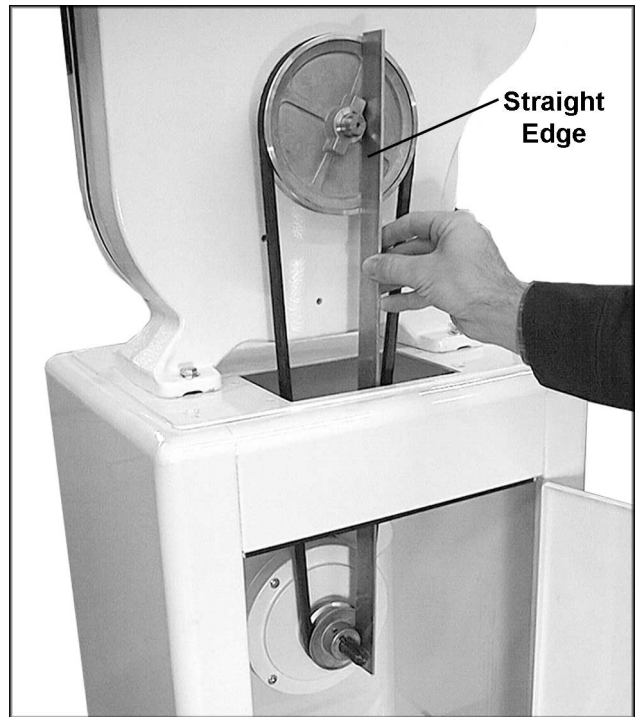

Fig. 8a
6. Check the alignment of the pulleys by placing a straight edge against the flat sides of the motor and wheel pulleys (Fig. 8a). If the pulleys lie in a straight plane (Fig. 8b) they are aligned. If they do not lie in a straight plane, loosen the set screw on one of the pulleys and shift the pulley in or out until both pulleys lie in a straight plane. Tighten set screw.
7. Open the lower door, and place the v-belt around the motor pulley and the wheel pulley (see Fig. 8a).